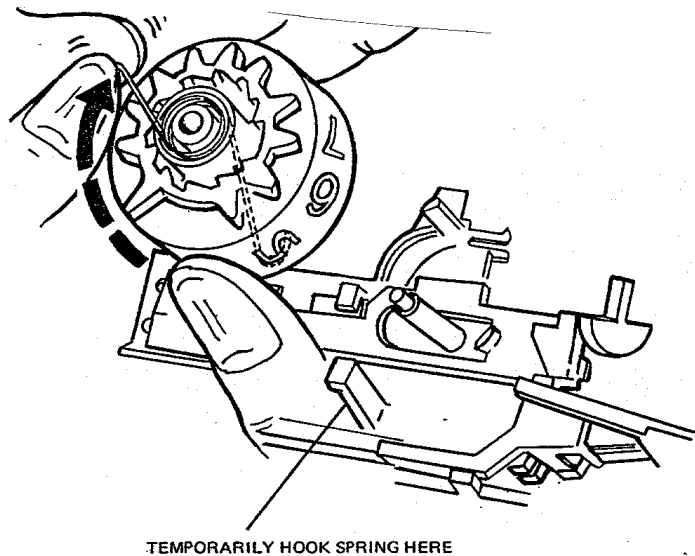

Fig. 49 Replacing the Counter
59. Set the Counter Spring into the Counter (Fig. 49), wind the Spring, push in the Slider and place the Counter on its shaft. Temporarily hook the Spring onto the lower detent. (Note that the number 6 is upside down and facing forward.)